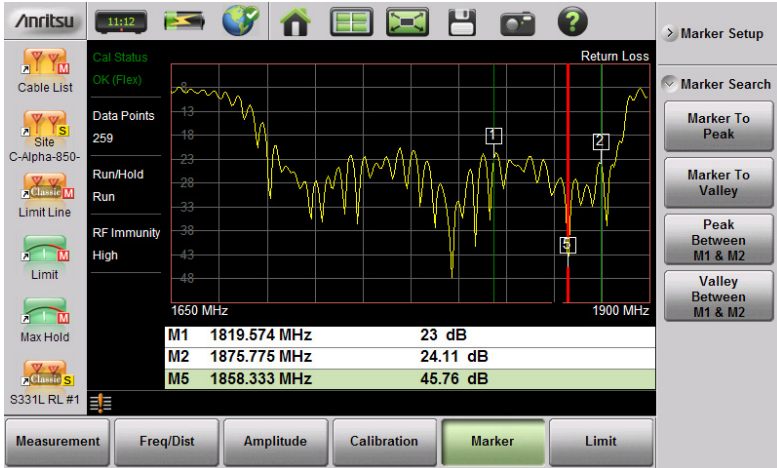

Figure 3-26. Bounded Marker Search
4. In Figure 3-26 on page 3-44, Marker 5 moved to the valley bounded by M1 and M2 instead of the lowest point (48 dB) to the left of Marker 1. The valley search would also work if M1 and M2 were set and then turned off.